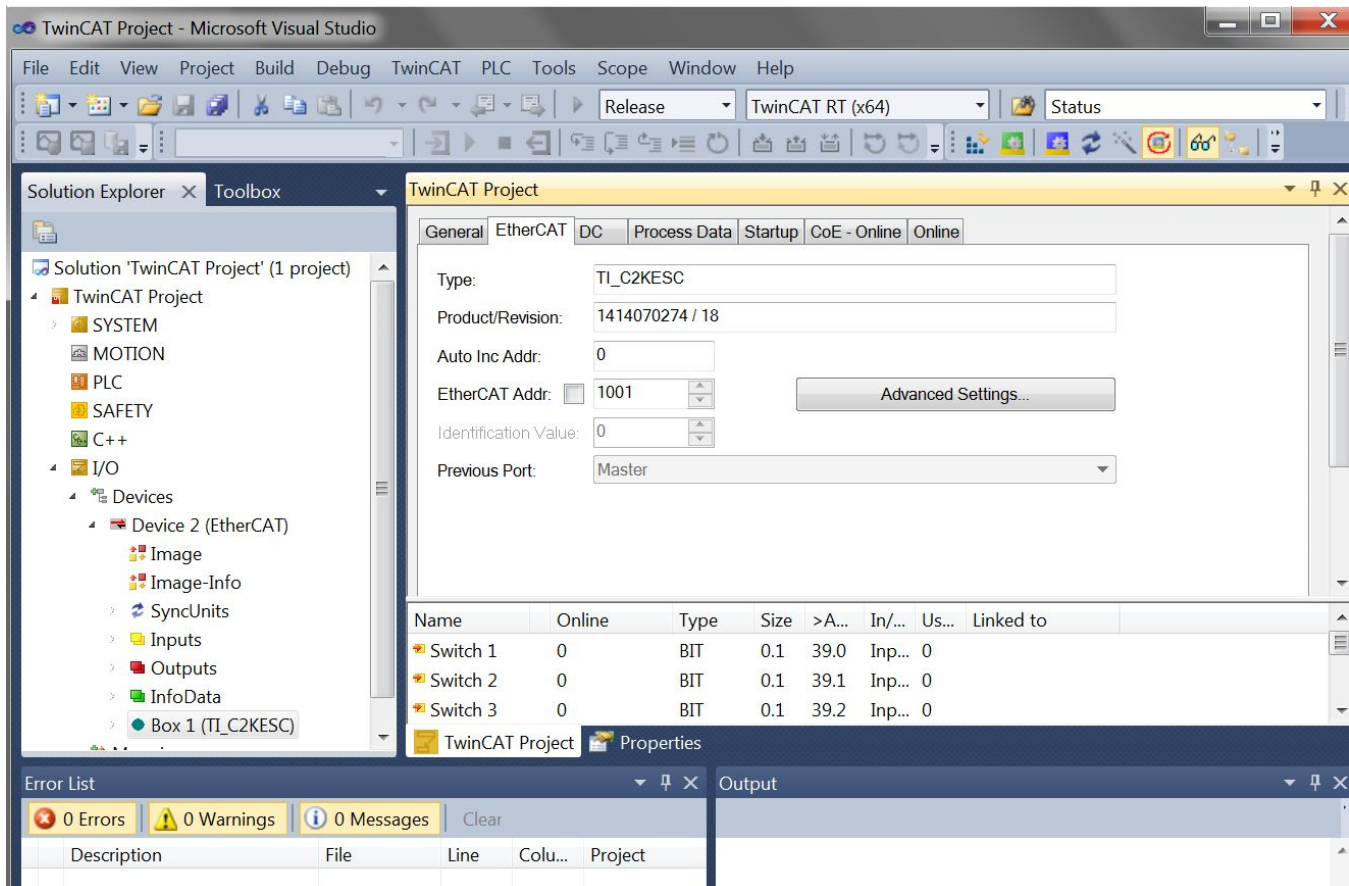

Figure 24. TwinCAT Project EtherCAT Tab
1. After starting up the TwinCAT software in Section 2.1, the screen should look something like Figure 24. Double clicking the EtherCAT slave (labelled “Box 1” in the figure) brings up the EtherCAT properties window on the right. Click “Advanced Settings”.